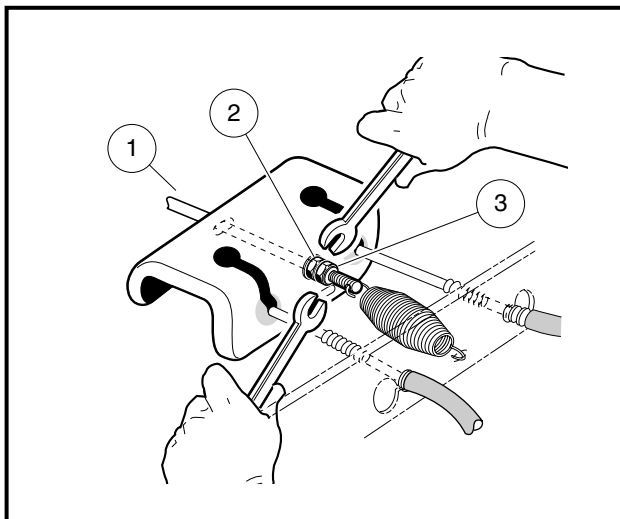

Figure 5-1 Loosen Equalizer Rod Nuts
- 1.2. To provide slack in the brake cables, loosen the equalizer retaining nuts (2 and 3) on the equalizer rod (1) (Figure 5-1, Page 5-2).